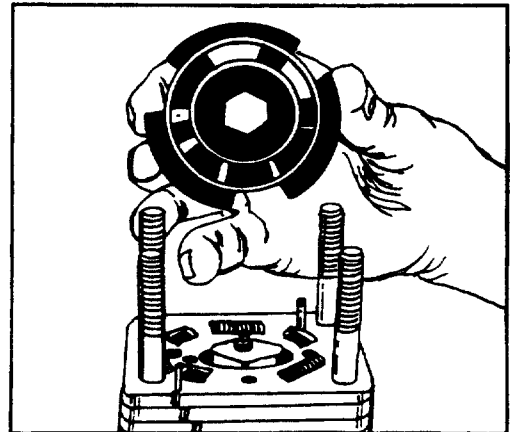

FIGURE 12.
13. Inspect the slot edges and ground surfaces. If the valve plate (13) shows nicks or scoring or the edges are not sharp, it must be replaced. See figure 12.